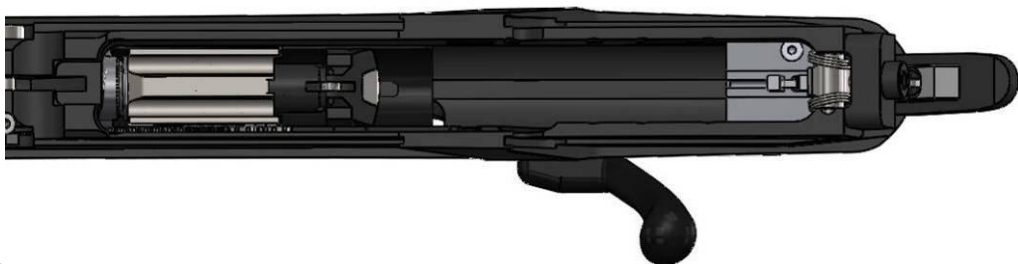

Figure 26
(5) Push the bolt handle into foremost position. (Figure 26)